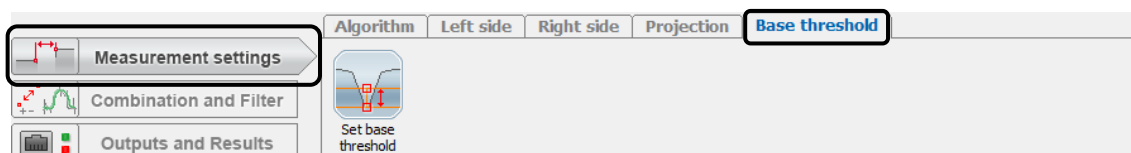

Fig. 4.43: "Measurement settings" input field, "Base threshold" tab sheet
- ➡ If not already done so, click on the "Measurement settings" button (see Fig. 4.43).
- ➡ If not already done so, click on the "Base threshold" tab (see Fig. 4.43).